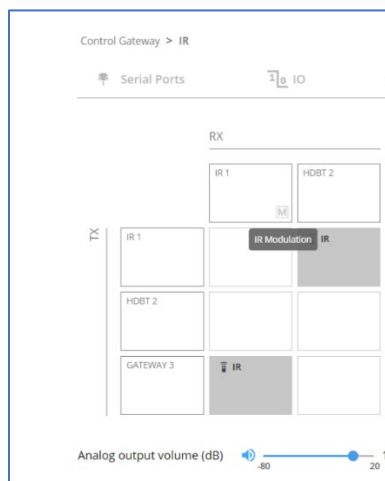

Figure 46: IR Modulation Method Setting
IR routing cross-point grid for Tx and Rx extension operation modes (see Figure 46), enable IR signals routing, as follows:
2. Select the **IR** tab. The IR tab opens (see Figure 46).